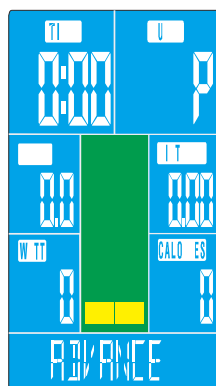
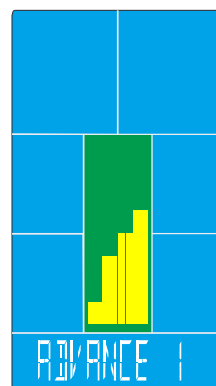

FIGURE 11
FIGURE 12
- If select ADVANCE function (figure11), press MODE confirm to next step. Set ADVANCE 1~4 (figure12), press UP/DOWN to select ADVANCE 1, and press MODE to confirm entering this mode, you can press UP/DOWN button to adjust and set TIME or directly press START button to start workout. After START, press UP and DOWN buttons to adjust motor LOAD. When the graph is executed to the ninth STEP, it is shifted to the left by the scroll bar, and so on.